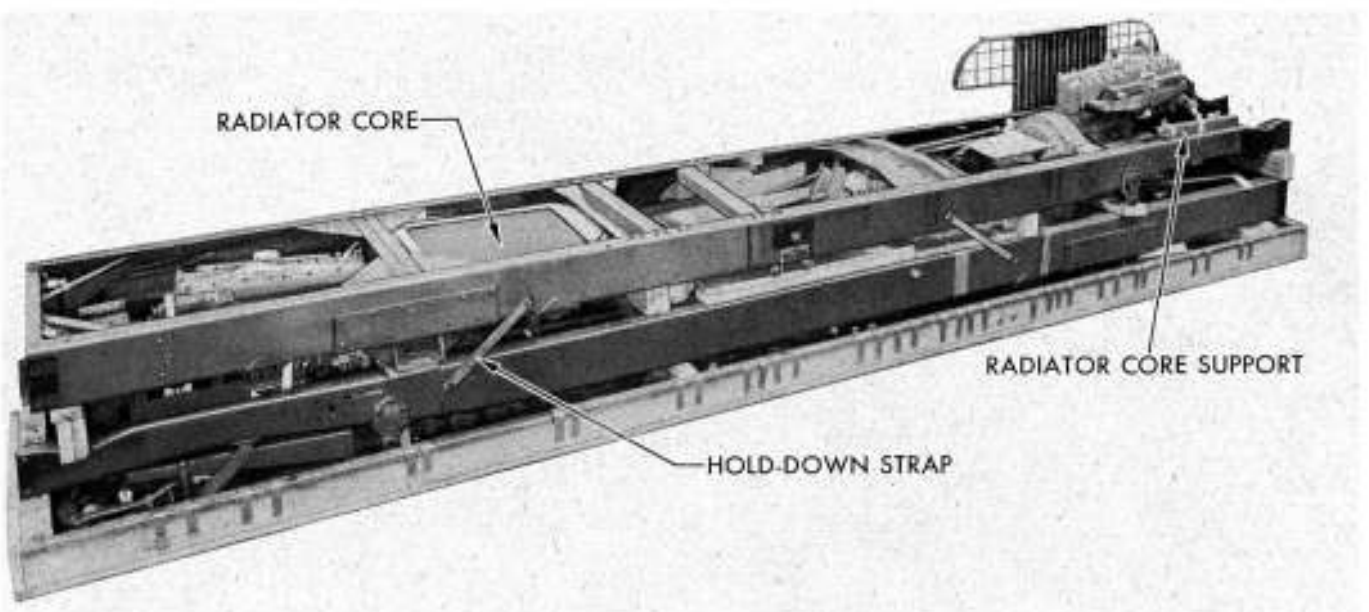

Figure 3—Frame Case with Wheels Removed (Cargo Models)
(1) **Wheels and Tires.** Lift the wheel and tire assemblies off the upper frame and place them in a suitable location to eliminate double handling (fig. 3).